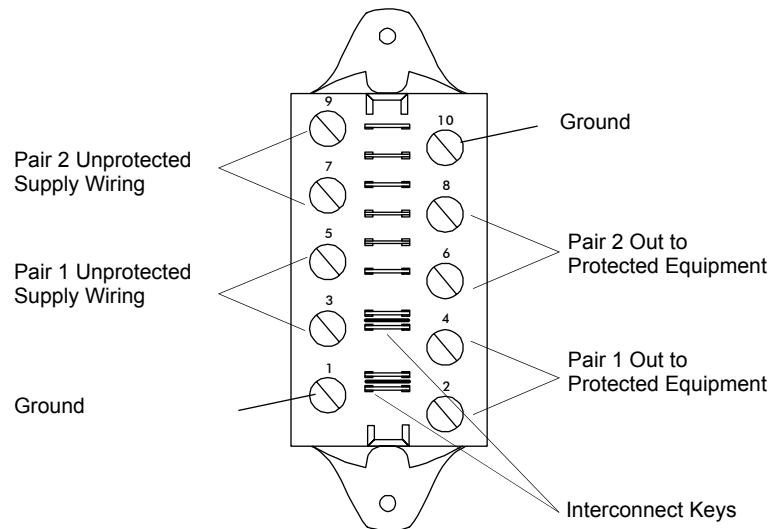

Figure 4.8 DITEK or EDCO Wiring Block
- The DITEK and EDCO modules are identical in both installation and operation. Figure 4.8 shows wiring terminations for up to 2-pairs of wires and is typical for both manufacturer's models.